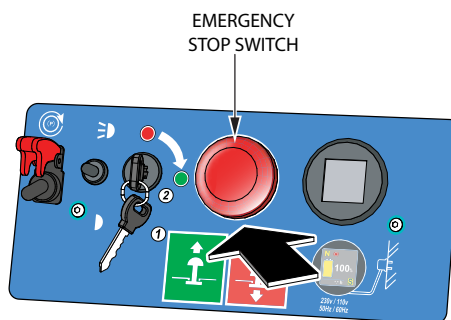

Figure 20. Emergency Stop Switch (Push)
1. Push the **EMERGENCY STOP** switch (Figure 20).